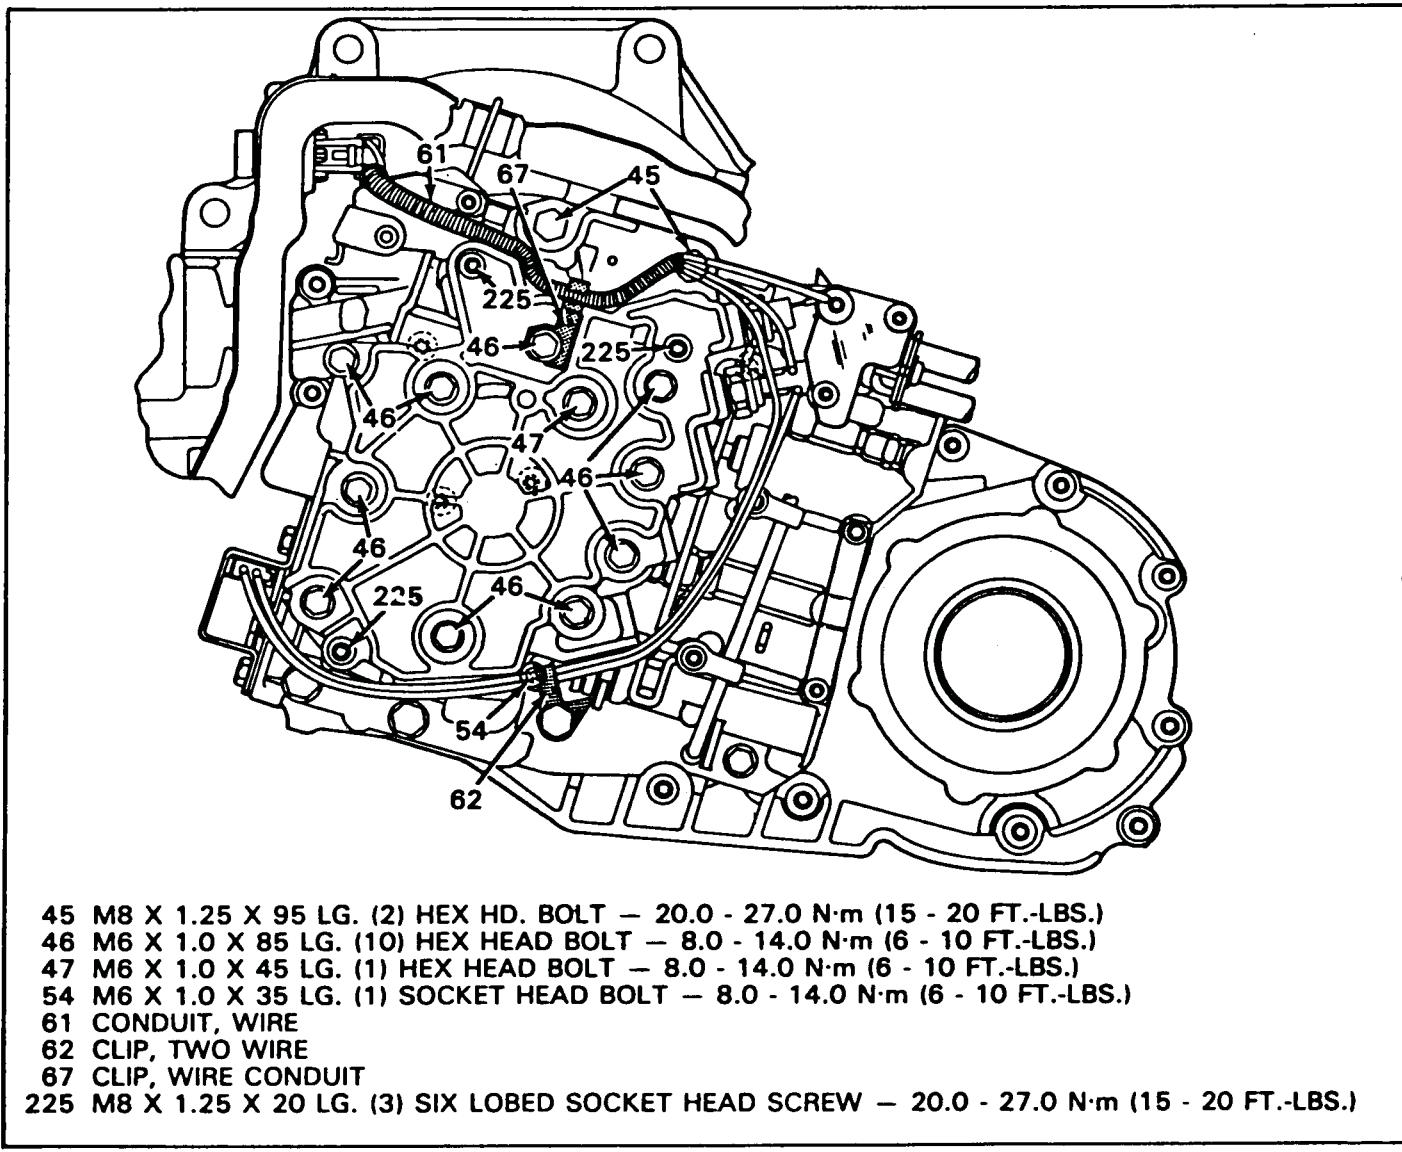

Figure 39
6. Remove all eleven 10mm bolts marked 46 & 47 in Figure 39.
7. Remove two 13mm bolts at top of oil pump marked 45 in Figure 39.
8. Remove 30 torx head bolt marked 54 in Figure 39.
9. Do not remove the three 40 torx head bolts marked 225 in Figure 39. This will retain the pump cover on the pump assembly.